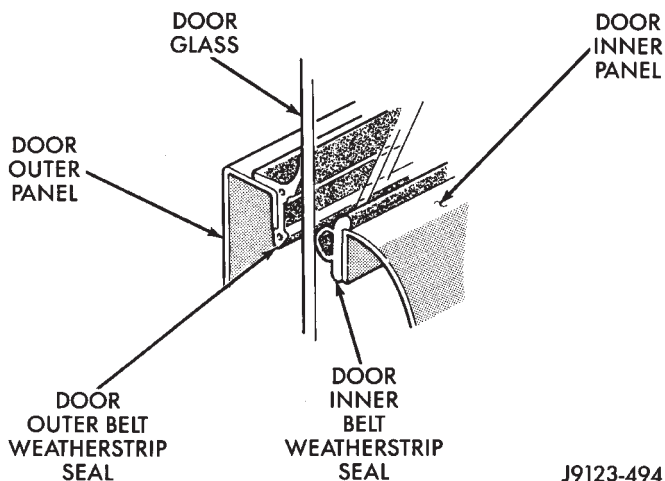

Fig. 18 Beltline Weatherstrip Seals
- (1) Position the seal between the door panel and the glass. Force the seal downward with your fingers to seat it against the glass and panel (Fig. 18).
- (2) Ensure that the seal is completely seated within the door (Fig. 18).
- (10) Remove the beltline weatherstrip seals from the door (Fig. 18).
- (15) Carefully remove the weatherstrip seal from door edge (Fig. 18).
- (3) Install the weatherstrip seal on the door edge (Fig. 18).
(8) Install the beltline weatherstrip seals in the door (Fig. 18).